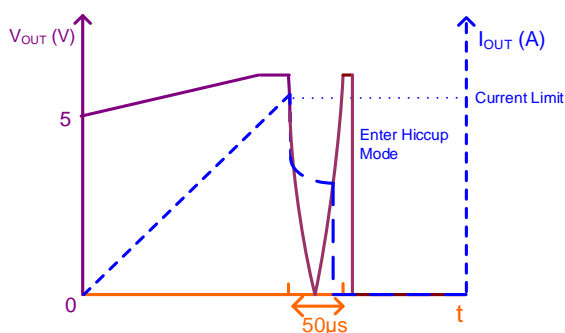

Figure 10: Over-Current Limit for CR Load
After soft start finishes, if the USB output voltage is below 3.5V and lasts longer than 50 μ s, the MPQ4253A also enters hiccup mode without having to wait for 5ms (see Figure 10). This helps prevent an abnormal thermal rise during a constant resistor (CR) load over-current case.